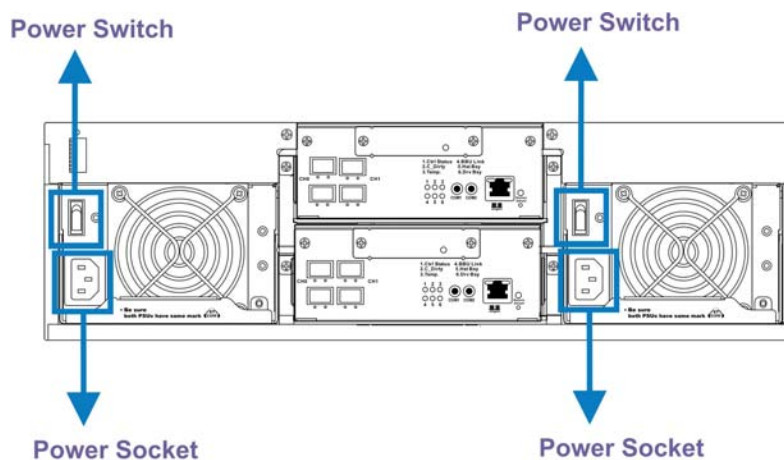

Figure 4-1: Power Sockets and Power Switches
- Power on by using the two (2) power switches on power supplies. (See *Figure 4-1*) Each switch controls a single PSU; therefore make sure that both switches are turned on.